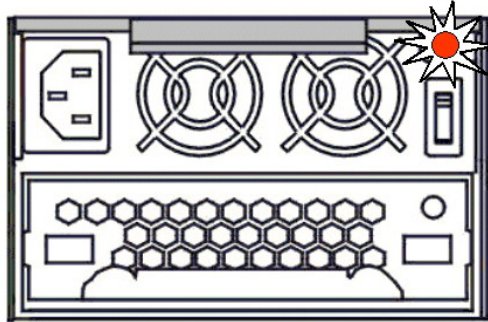

Fig. 1.2 Power Supply LED Indicator
All 2U subsystem power supplies have one (1) red LED on the back that indicates module failure (See Figure 1.2). If any of the power supply LEDs light up, the power supply may have failed or is considered faulty.